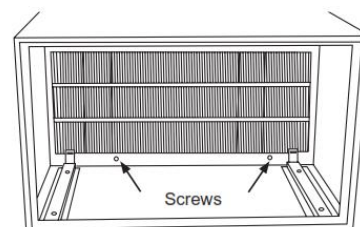

Figure 9
3. Line up the two holes in the bottom wall sleeve flange with the screw bosses in the grille. (Figure 9) Tighten two screws provided secure grille to wall sleeve from inside of the wall sleeve.